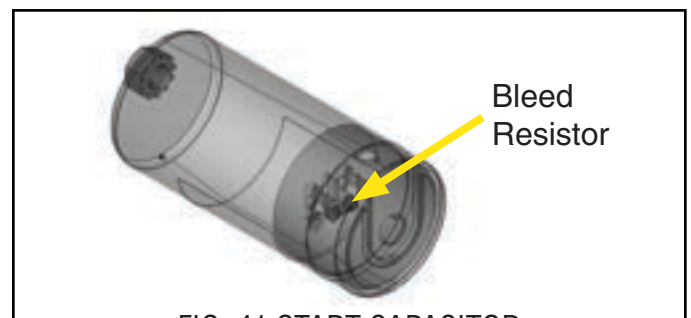

FIG. 41 START CAPACITOR
4. If a bleed resistor is parallel across the start capacitor terminals, isolate bleed resistor from capacitor terminals. See FIG. 41.